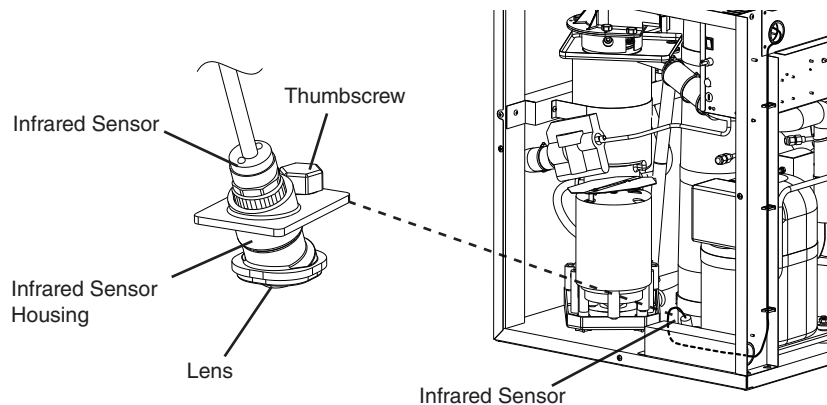

Fig. 19
- 7) "GM" LED and "COMP" LED are on. Use an object to cover the infrared sensor lens at the bottom of the icemaker. If the bottom of the icemaker is not accessible in your application, remove the thumbscrew securing the infrared sensor housing, remove the housing from the base, then cover the infrared sensor lens. See Fig. 19. The yellow LED on the infrared sensor turns on. The yellow LED flashes when ice is at the outer limit of its range and turns steady as ice nears. After the yellow LED turns on (flashing or steady), the infrared sensor shutdown delay timer starts (S1 dip switch 1, 2, 3; factory default is 100 sec.). "Comp" LED turns off after the shutdown delay timer terminates. 5 minutes later, "GM" LED turns off.